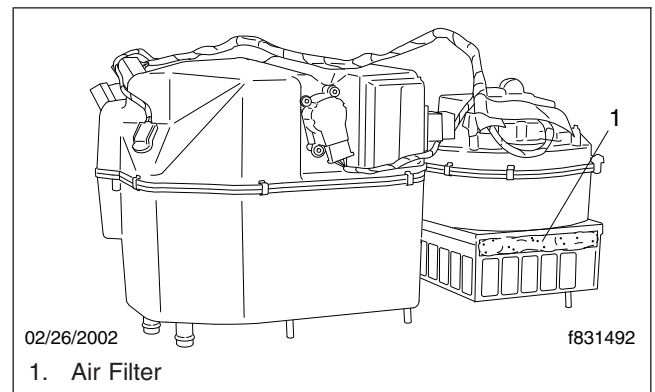

Fig. 5, Sleeper HVAC Assembly
3. Slide the air filter out of the sleeper HVAC assembly; see Fig. 5.